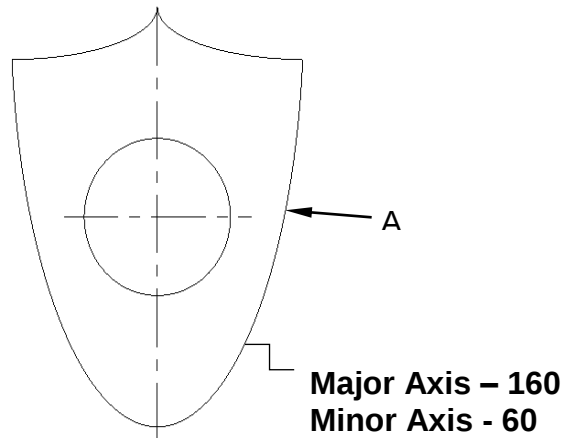

Fig. 2
- 5 Figure 2 below shows a drawing of a logo for a football club.